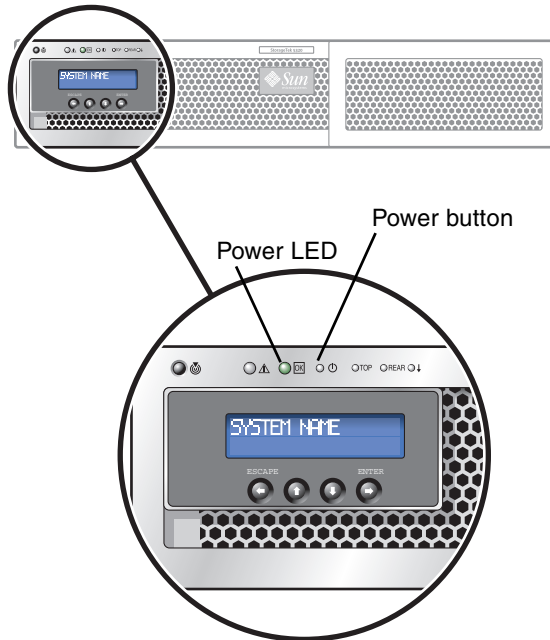

FIGURE 4-10 Power Button and Front Panel Detail
6. Power on server H1 (software serial number ending in “-H1”) by using a pen tip or similar implement to press the recessed Power button (FIGURE 4-10).
10. Power on server H1 (software serial number ending in “-H1”) by using a pen tip or similar implement to press the recessed Power button. Refer to FIGURE 4-10 for a detailed illustration of the front panel.
8. Power on server H1 (software serial number ending in “-H1”) by using a pen tip or similar implement to press the recessed Power button. Refer to FIGURE 4-10 for a detailed illustration of the front panel.